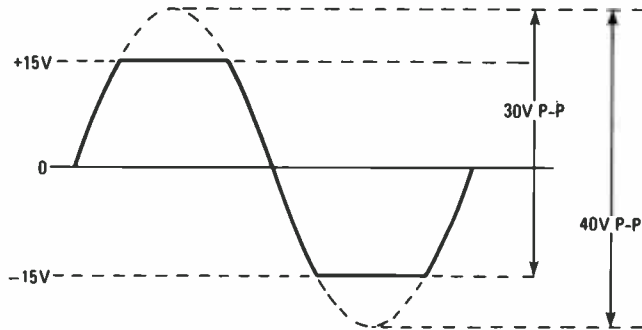

Fig. 5—Excessive sinewave signal input voltage and/or op-amp voltage gain will produce a clipped sinewave.
18. (See Fig. 5) The output is a sinewave with its peaks clipped. An amplifier with a gain of 10 would produce a 40-volt peak-to-peak output. But the supply voltage(s) limit the swing to +15/-15 or 30 volts p-p. Therefore, clipping or distortion occurs.